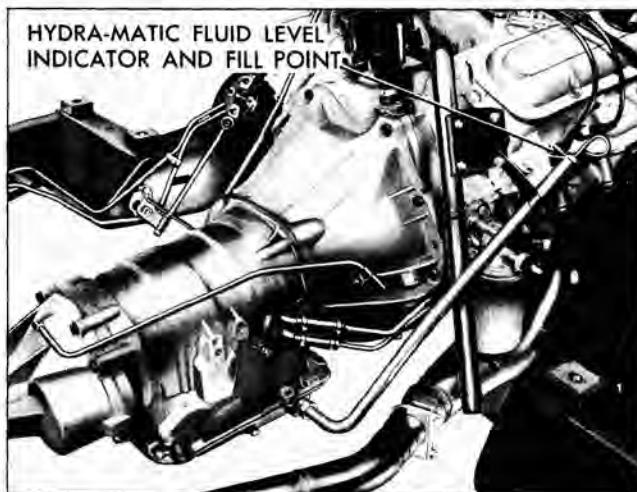
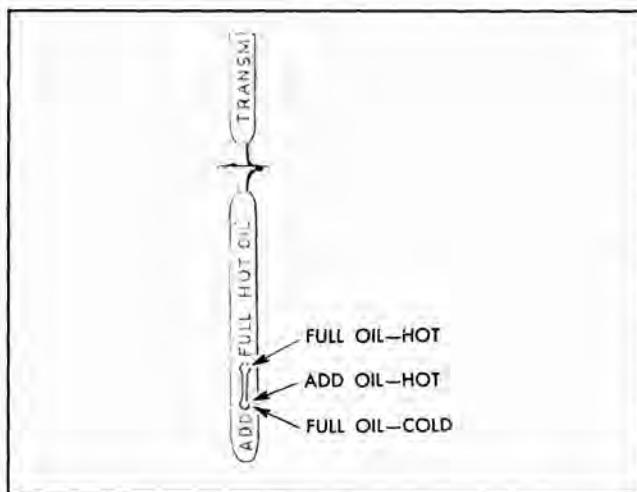

Fig. 38 Fluid Level Indicator
Fig. 39 Indicator Markings
The fluid level indicator is located in the filler pipe at the right rear corner of the engine (Fig. 38). To
bring fluid level from lower mark to full mark requires 1 pint (Fig. 39). Indicator handle should be turned slightly to lock it to the filler tube.
2. With engine idling at normal idle speed, check oil level indicator (Fig. 38) and note reading (Fig. 39). NOTE: When adding fluid use Automatic Transmission Fluid (Type A) from containers bearing Armour Institute qualification number "AQ-ATF".